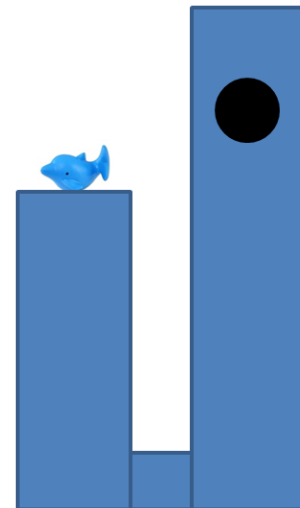

Figure 1: Rescuing the Dolphin pipe configuration.
1. The challenge is to rescue a dolphin from a vertical pipe by raising the water level in the pipe (Figure 1).
- 1.1. A Bath Buddy Dolphin Water Squirter of approximate size of 3" H x 3" W x 3" L will be placed in the bottom of a pipe of 2-foot height. This pipe will be connected to a standpipe of similar diameter but of 3-foot height and an opening for water entry of 2 inches in diameter at a height of about 2.5 feet as shown in Figure 1.